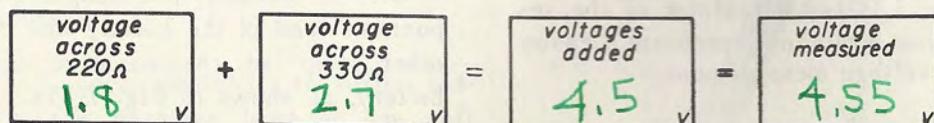

Fig. 7-14
Step 5. Using the 5-volt d-c range on your multimeter, measure the voltage across the 220-ohm resistor. Be sure to use the correct polarity in connecting your test prods to this resistor. If, in this measurement or in any other measurement you make in this lesson, you find the meter reading backwards, just reverse your test prods. Record this voltage reading in the first box of Fig. 7-14.
Step 6. Measure the voltage across the 330-ohm resistor. Record this voltage in the second box of Fig. 7-14.
Step 7. Add the two voltage readings and record the amount in the third box of Fig. 7-14.
Step 8. Measure the voltage at the positive and negative terminals of the battery. Record this reading in the fourth box of Fig. 7-14. Disconnect the battery from the resistors. You do this so as not to waste battery energy. If your measurements are correct, the voltage shown in box 3 should equal the voltage shown in box 4.